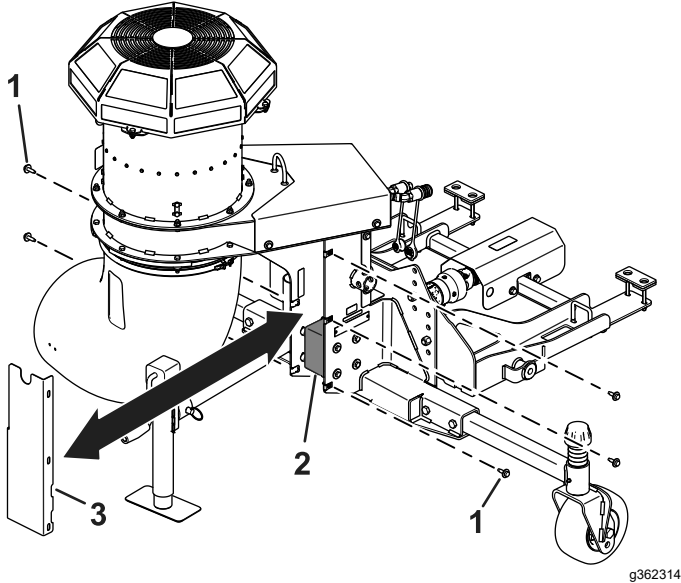

Figure 24
2. Remove the 5 bolts and washers securing the gear case cover to the blower (Figure 24).
3. Remove the cover to expose the blower gear case (Figure 24).